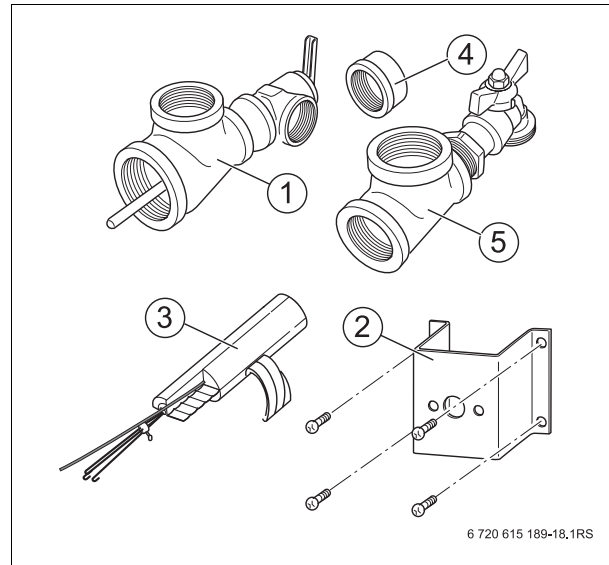

Fig. 2 Tank kit fittings
- B-Kit (US) (→ Fig. 2, page 6)